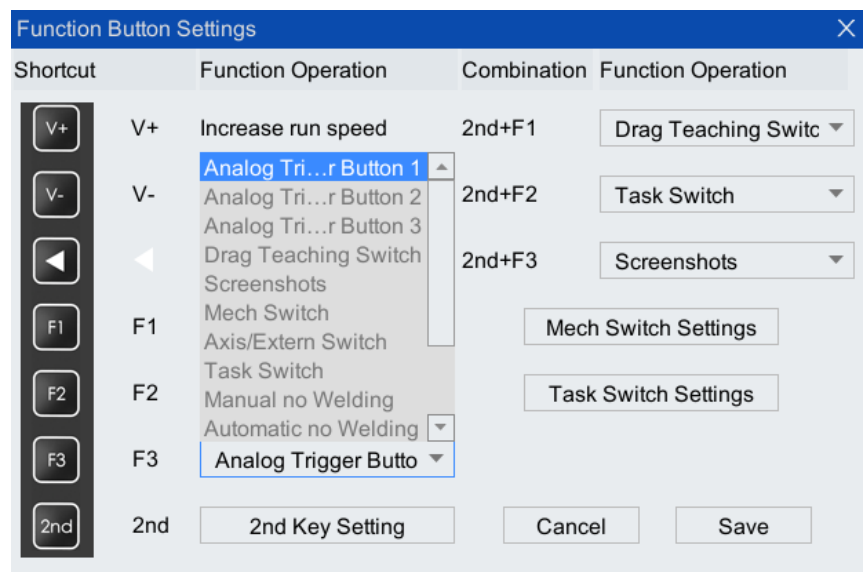

Figure 6-12 Function key setting interface
Step4. In the pop-up [Function Button Settings] interface (as shown in Figure 6-12), set the simulation trigger button (for example, set the simulation trigger button 1 to F3).